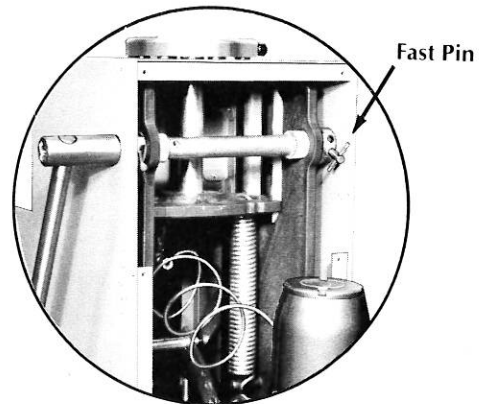

Figure 2
Locate the Press in a convenient position with access to a standard voltage grounded-type electrical outlet for the Mold Heater. Remove the back cover by loosening the six (6) screws which hold it in place. Remove the Fast Pin (Figure 2) from the side of the machine you wish to locate Handle Assembly. Insert the Handle Assembly, replace the Fast Pin and press the Caplug into the open hole on the opposite side of the Cabinet. Replace the back cover.